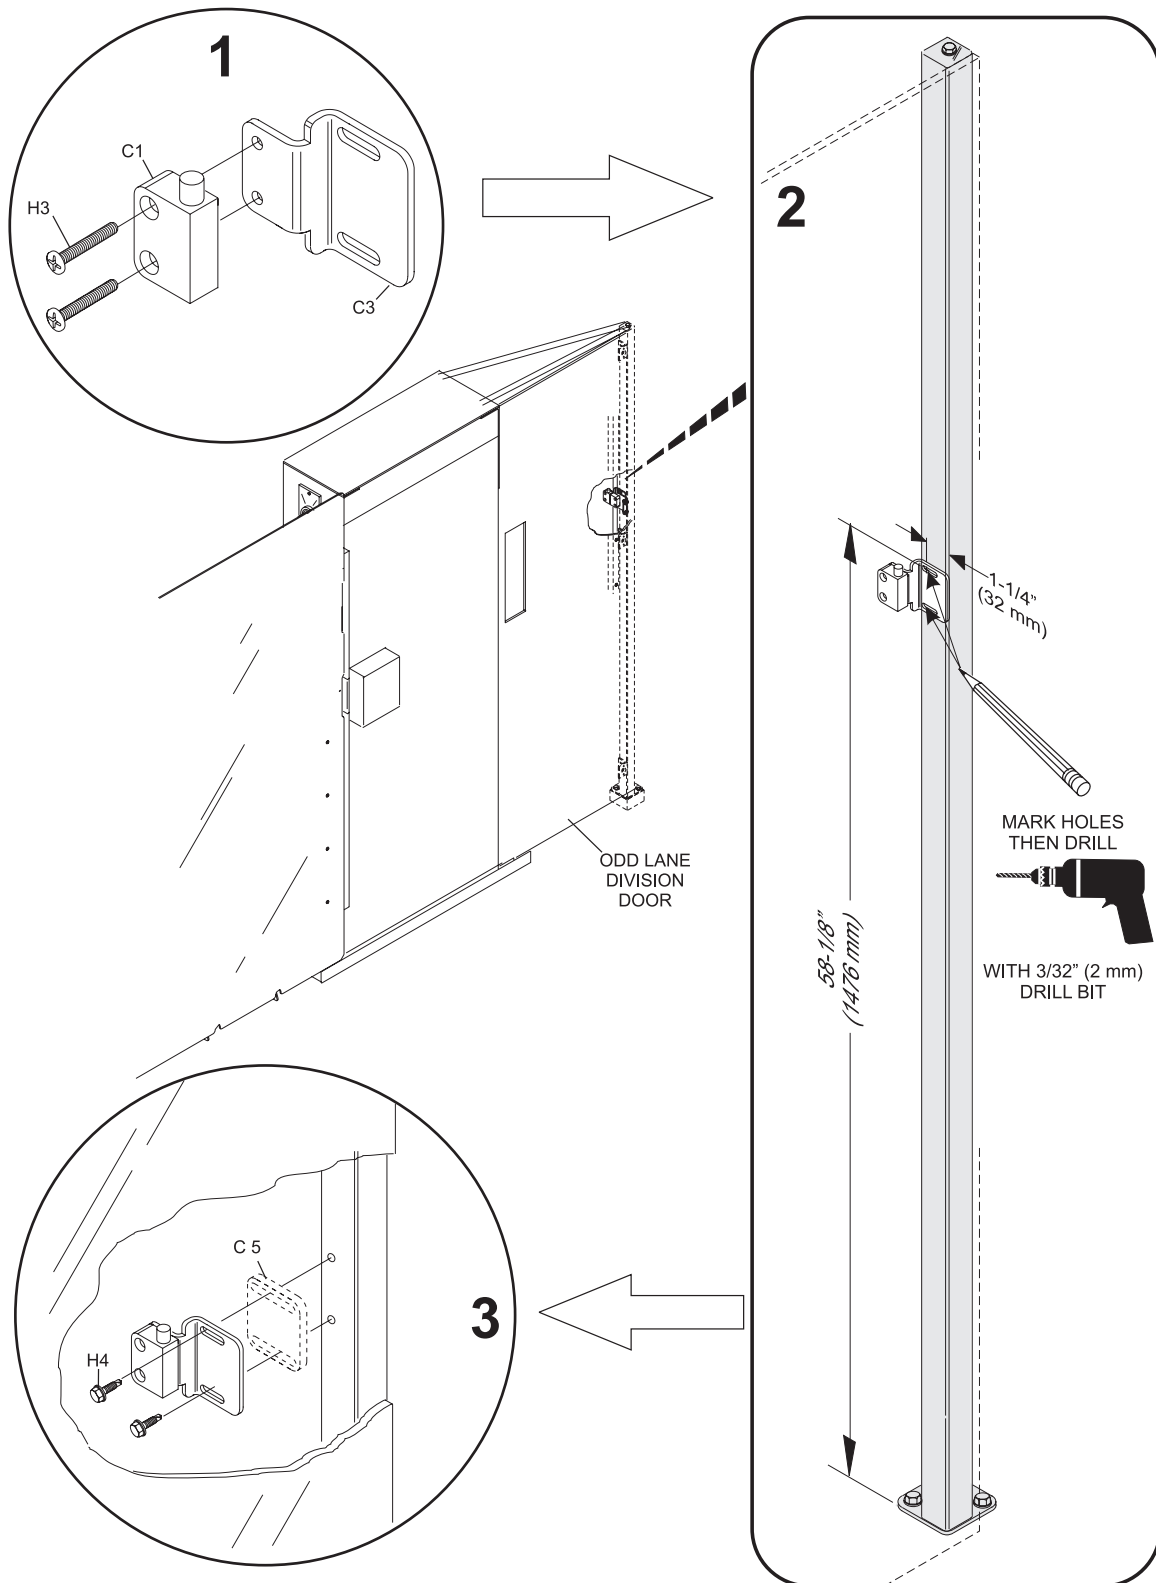

Figure 1
3. Secure Send Unit assembly to post (shim if necessary). Refer to *Figure 1*.